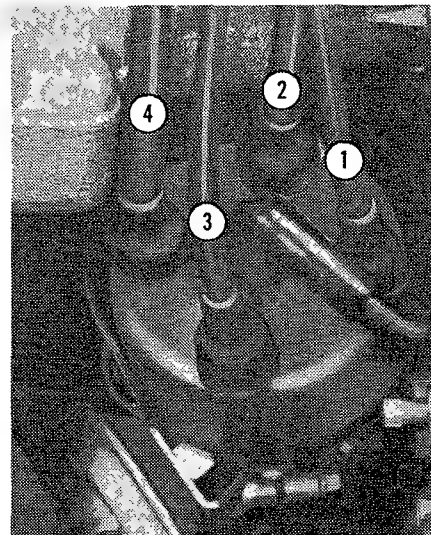

FIG. 10 Distributor Cap
- Insert each wire in the proper socket of the distributor cap (Figure 10). Be sure the wires are forced all the way down into their sockets.